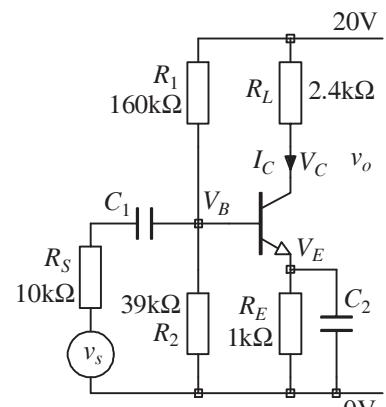

Figure 6
Q6 For the circuit of figure 6, $V_{BE} = 0.7\text{V}$ and all voltages are measured with respect to 0V.
- (ii) Work out r_{be} and g_m for the transistor of figure 6 if $\beta = 500$. (4.04k Ω , 0.124A/V)
- (iii) Draw a small signal equivalent circuit of the circuit of figure 6.